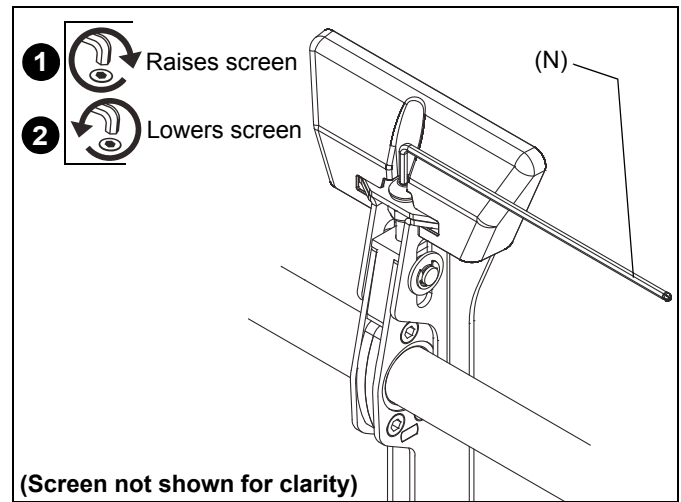

Figure 15
1. Turn to right (tighten) to raise side of screen. (See Figure 15)